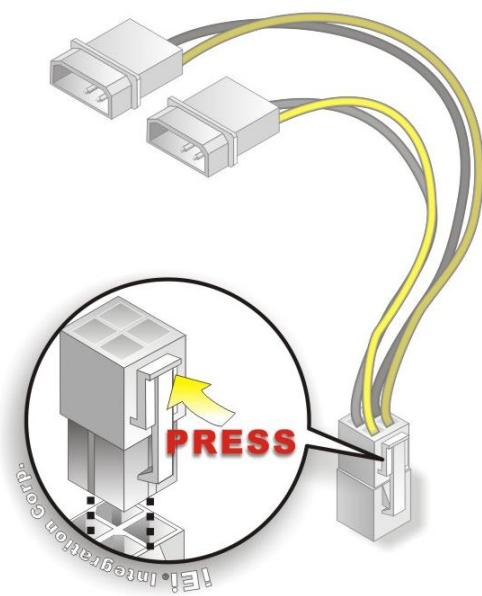

Figure 4-9: Power Cable to Motherboard Connection
Step 2: Connect the power cable to the motherboard. Connect the 4-pin (2x2) Molex type power cable connector to the power connector on the motherboard. See Figure 4-9